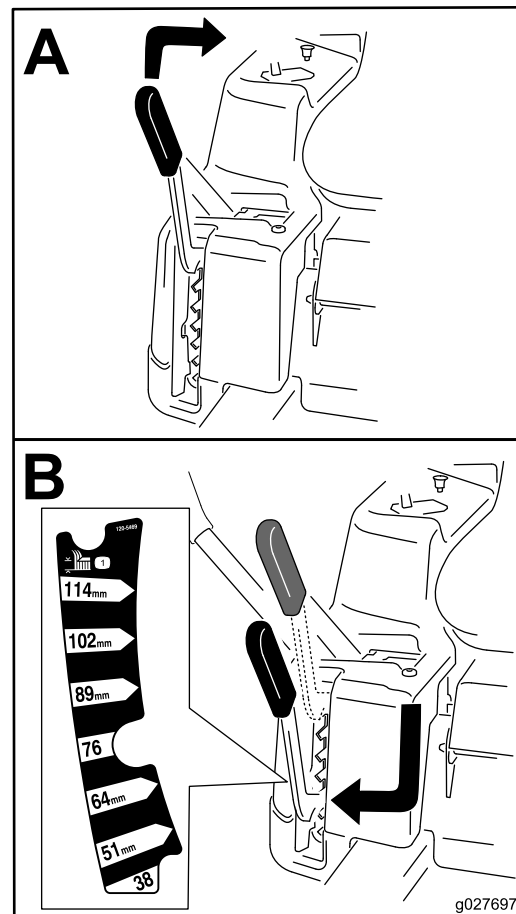

Figure 31
**Note:** The transport position is the highest height-of-cut position or cutting height at 115 mm (4-1/2 inches) as shown in Figure 31.
Height of cut is controlled by the lever located to the right of the operating position (Figure 31).